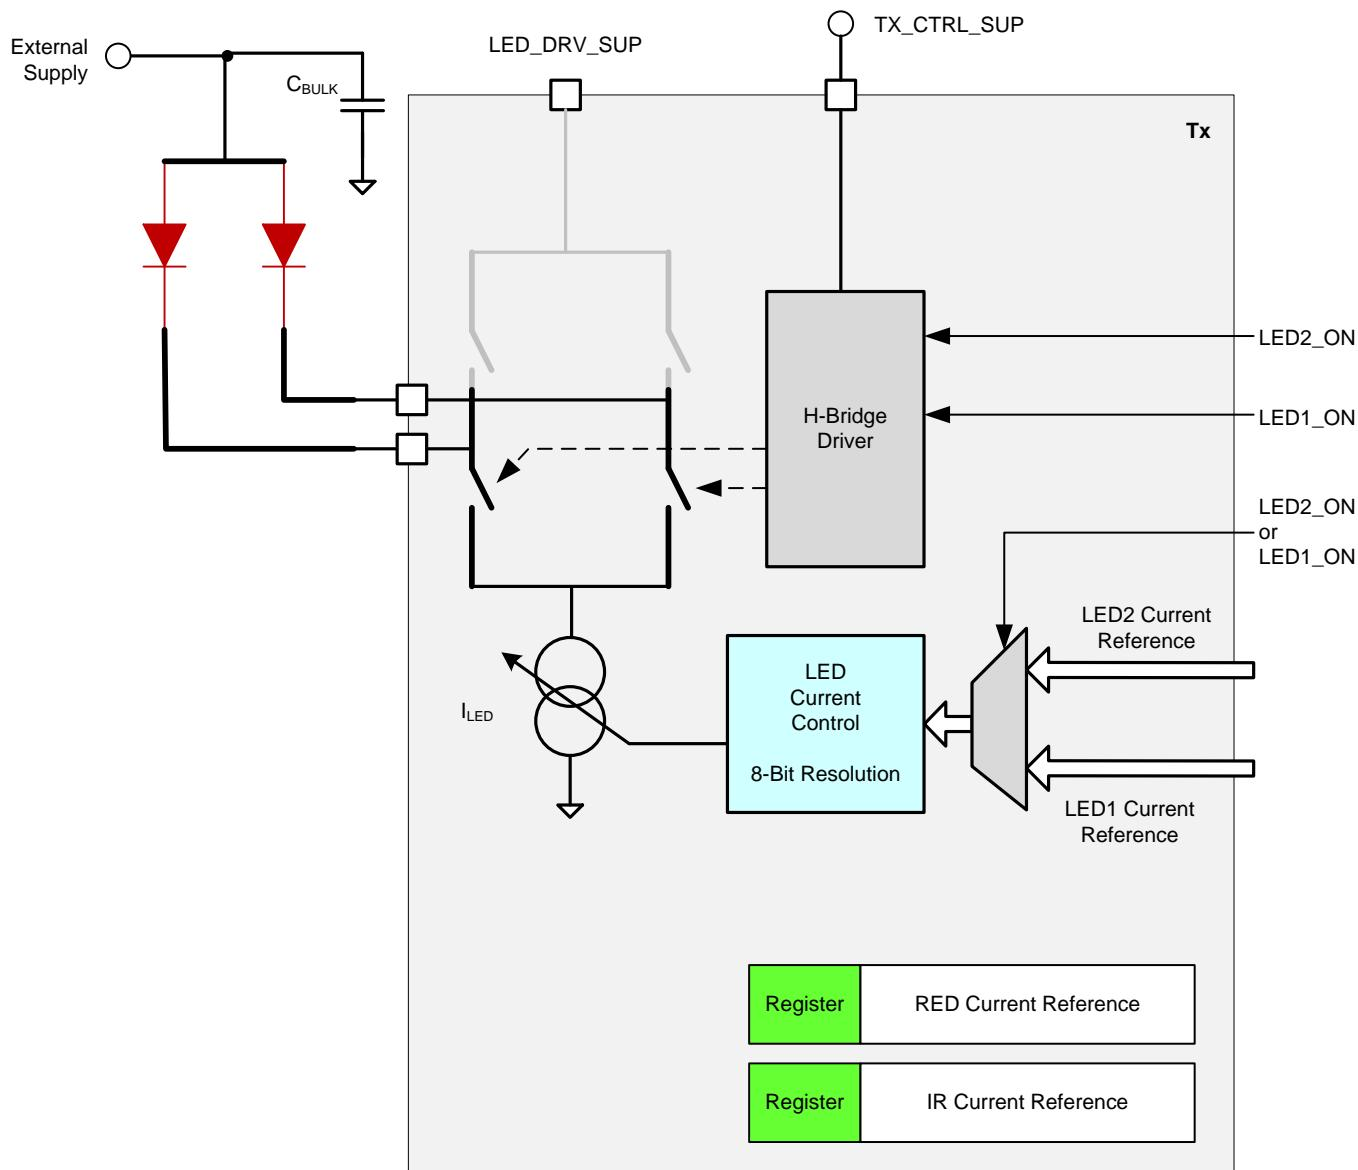

Figure 72. Transmit: Push-Pull LED Drive for Common Anode LED Configuration
- A push-pull drive for a three-terminal, common-anode LED package; see Figure 72.